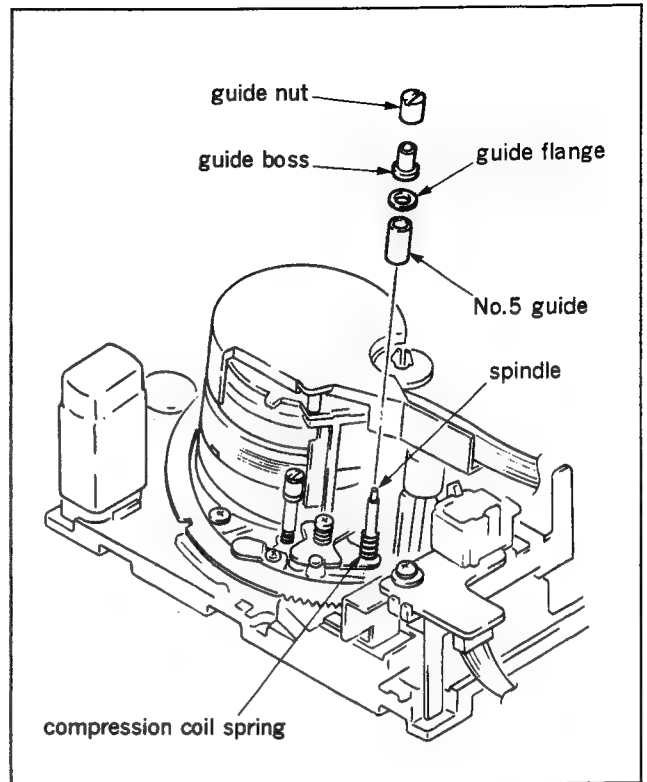

Fig. 4-13-2 No.5 guide replacement
1. No.5 guide block component parts removal (Fig. 4-13-2)